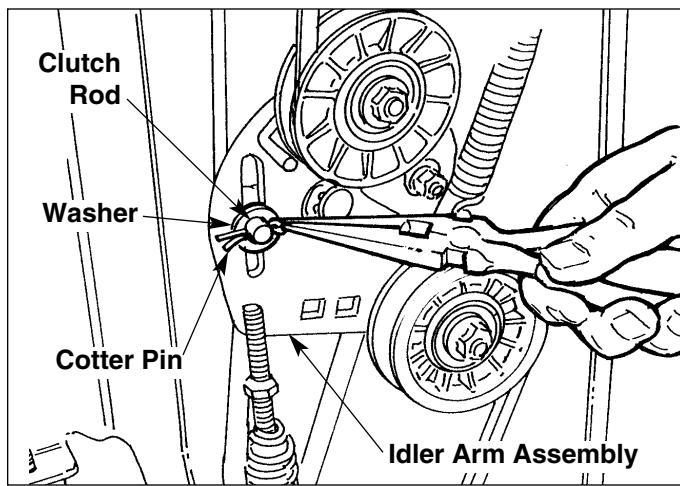

Figure C-9. Clutch Rod Cotter Pin & Washer
1. Using a needle-nose pliers, remove the cotter pin that secures the parking brake rod to the parking brake cam (Figure C-9). (The parking brake cam uses the front end of the clutch rod as a pivot point, and must be separated from the parking brake rod to permit removal of the clutch rod and related parts as a group.)
2. Remove the cotter pin and washer that secure the rear end of the clutch rod to the idler arm (Figure C-9). The clutch rod and related parts can now be removed from the unit for inspection and any necessary repair.